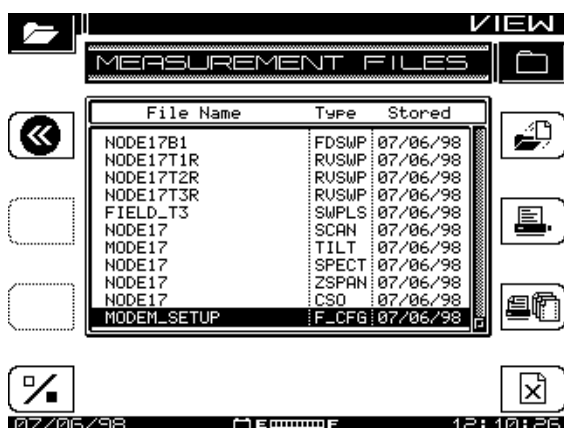

Fig. 11-2 The MEASUREMENT FILES Screen
3. Press the **Enter** key. Use the keypad to enter a name, then press **Enter** again. The MEASUREMENT FILES screen is displayed (see Fig. 11-2).
To view stored measurement files, press the **Function** and **2 def** keys. The MEASUREMENT FILES screen displays a list of all currently stored measurement files (see Fig. 11-2). Use the up and down diamond keys to select a file.